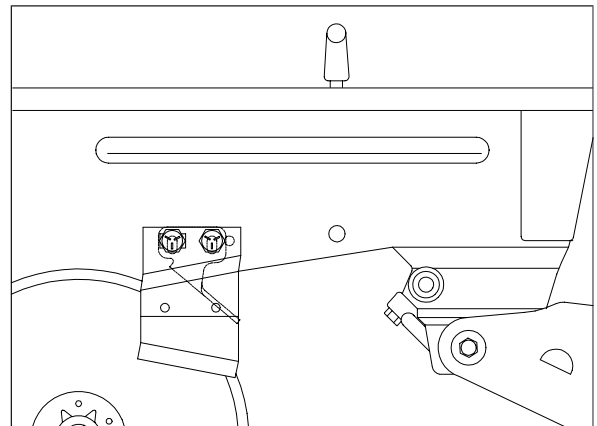

Figure 7
**Note:** If scraper use is still desired place them between the washer and formed channel before tightening bolts, see Figure 7.